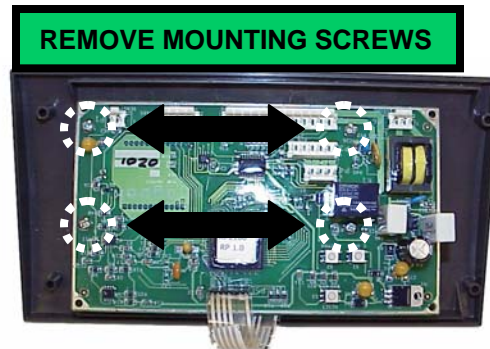

Fig. 8
3. Remove four screws as shown in **Fig. 8.**